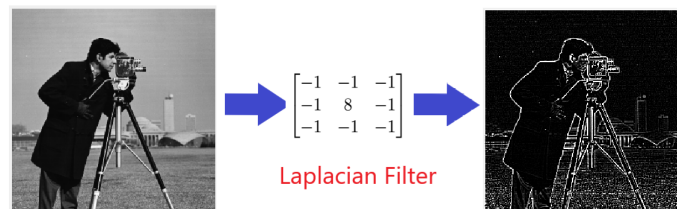

Figure 4: Edge Detection using Laplacian Filter
- Figure 4 shows the application that is going to be performed on this top module, and it specifies the kernel for convolution to be used.
- Once the script is ran, you should be seeing the detected edges of the input image, just like at Figure 4.